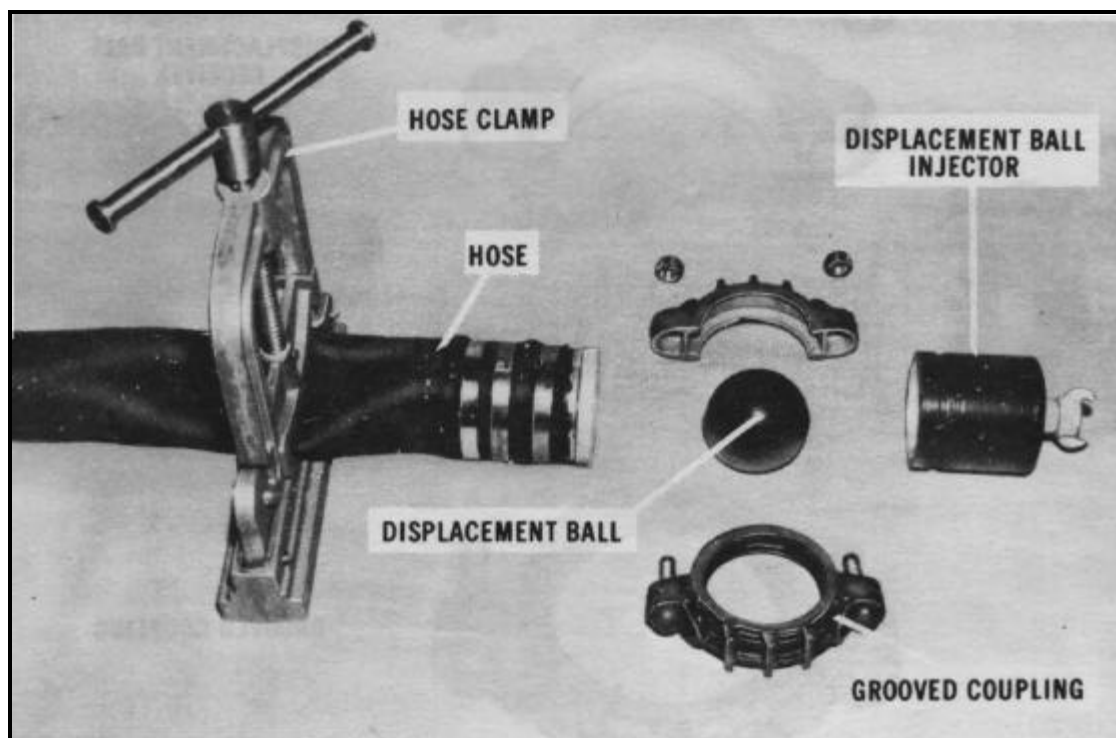

Figure 27-15. Unassembled ball injector
- Disconnect the hose from the pump, and attach the ball injector, with the ball, to the end of the hose as shown in Figures 27-15, page 27-13 and 27-16, page 27-13.